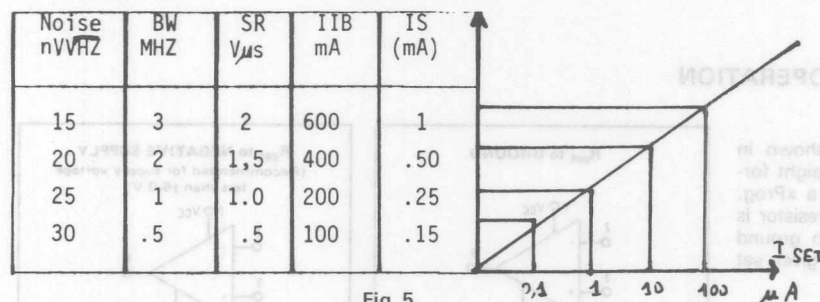

Fig. 5
- Following the programming described above you can select all the parameters of the characteristics shown Fig. 5.